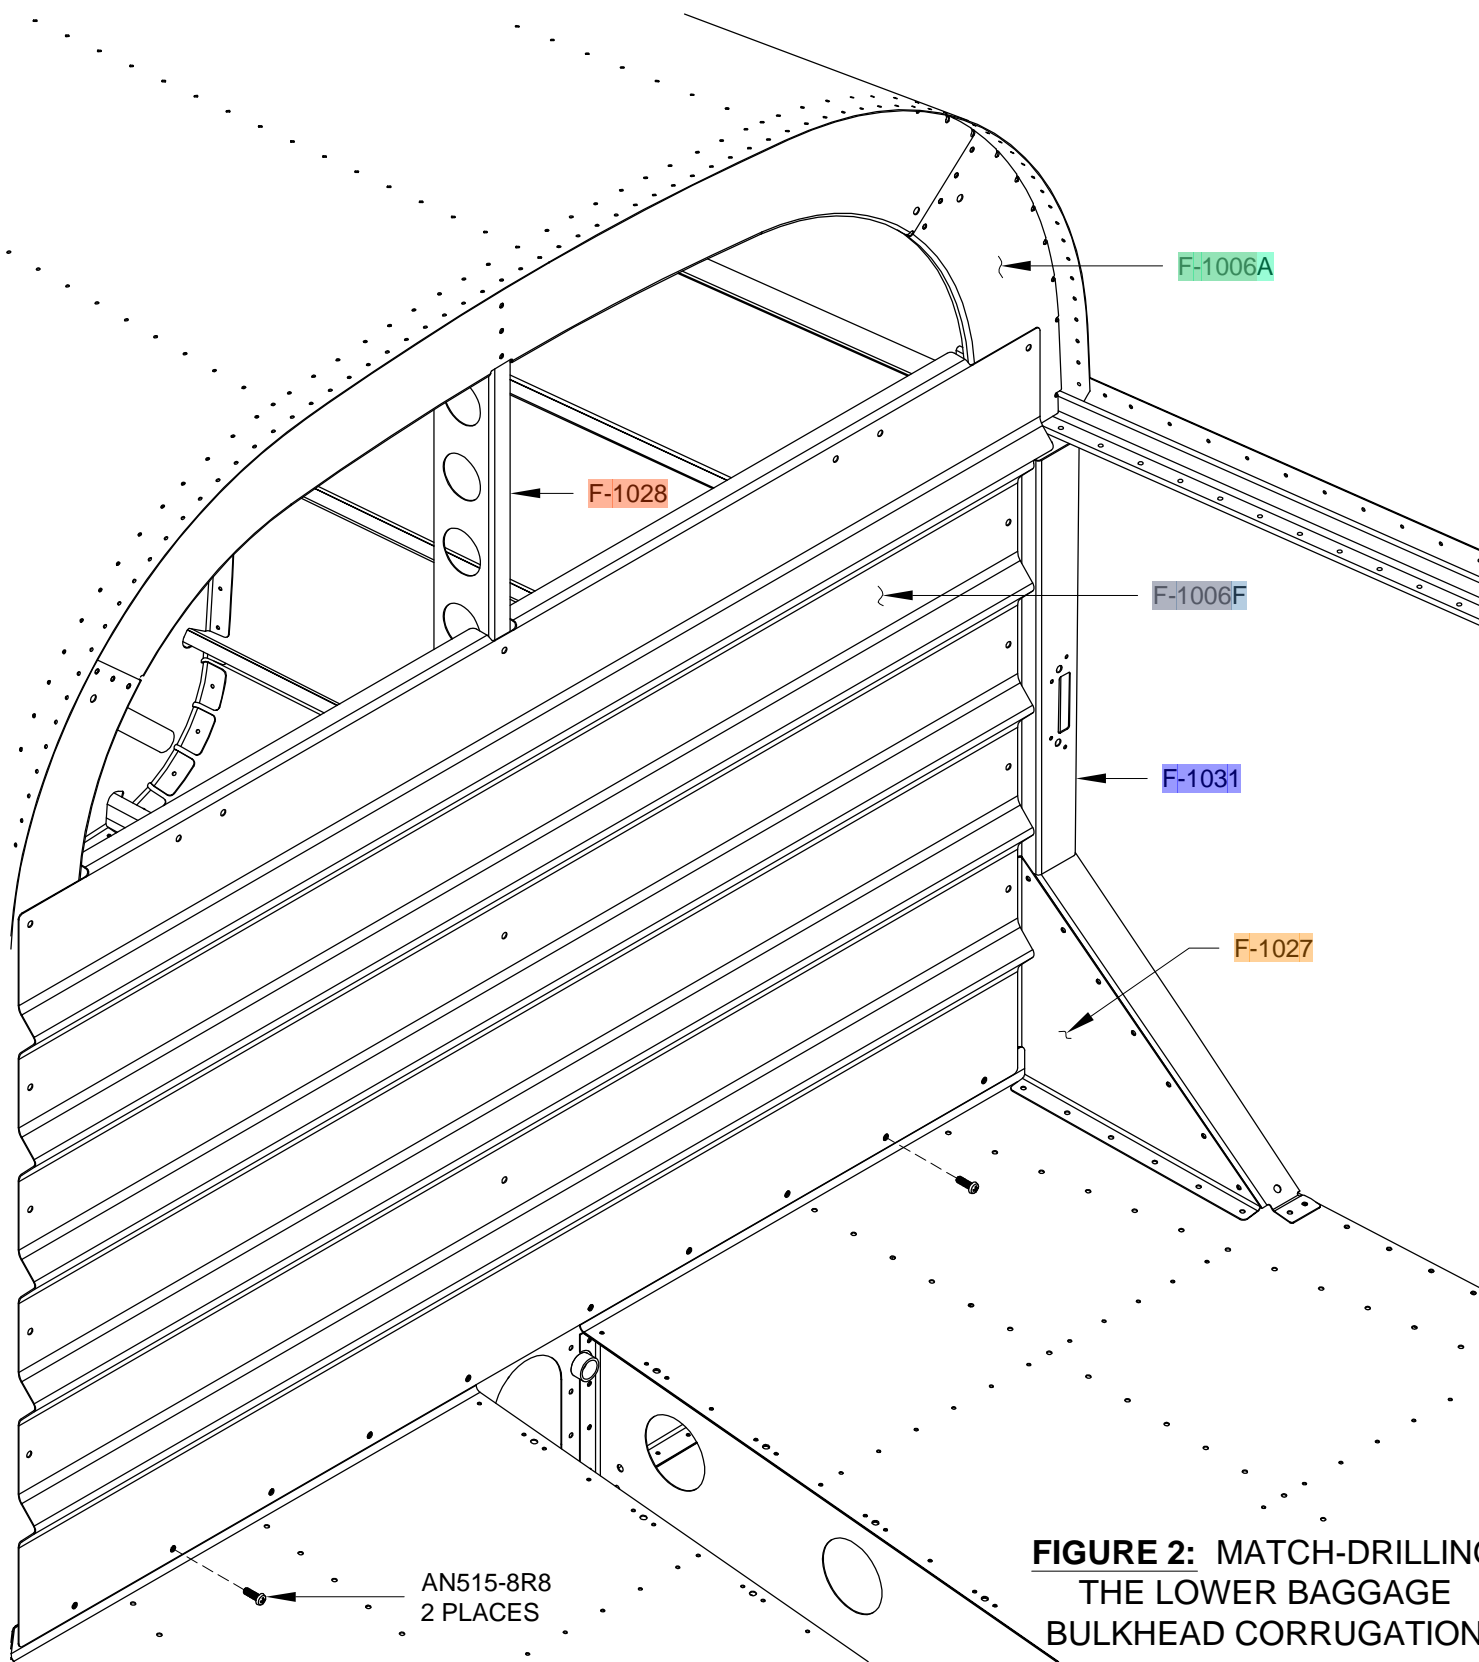

FIGURE 2: MATCH-DRILLING
Step 6: Temporarily secure the bottom of the F-1006F Lower Baggage Bulkhead Corrugation to the aft flange of the F-1022A Baggage Floors using the screws called-out in Figure 2.